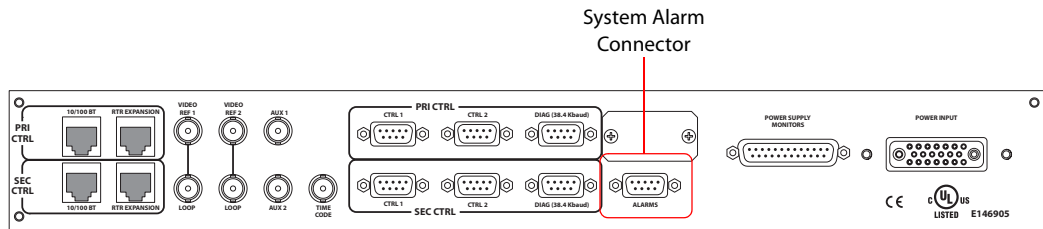

Figure 3-22. System Alarm Connection on Router (Rear View)
- 4 On the rear of the router, locate the ‘ALARMS’ connection, as shown in Figure 3-22.